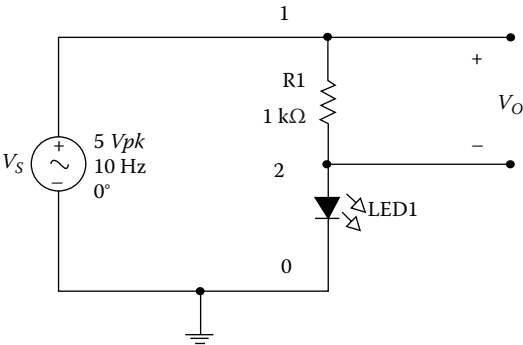

FIGURE P6.5
Problem P6.5 A half-wave rectifier, built using red LED, is shown in Figure P6.5. (1) Use the Analog Discovery board to display the input and output voltages. (2) Calculate the maximum current flowing through the LED.